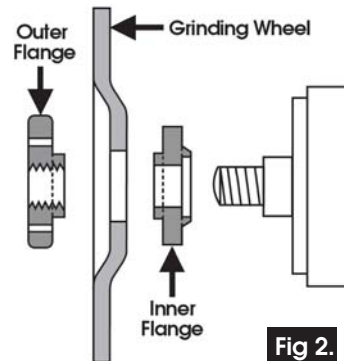

Fig 2.
- 1.2 The grinding wheel supplied is the 'Depressed Centre' type. Mount it as shown in the Fig.2. i.e. with the depressed centre towards the motor
Fig 2 shows the set up for a grinding wheel.